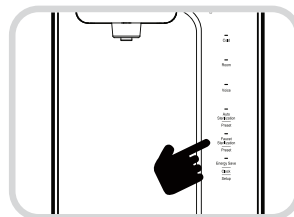

Fig. 18
2. Press the Faucet Sterilization/Preset button for three (3) seconds in the Waiting Status. (Fig. 18). The Voice Guide will say "selecting user setting mode" "user setting mode, please set function by pressing the illuminated button".